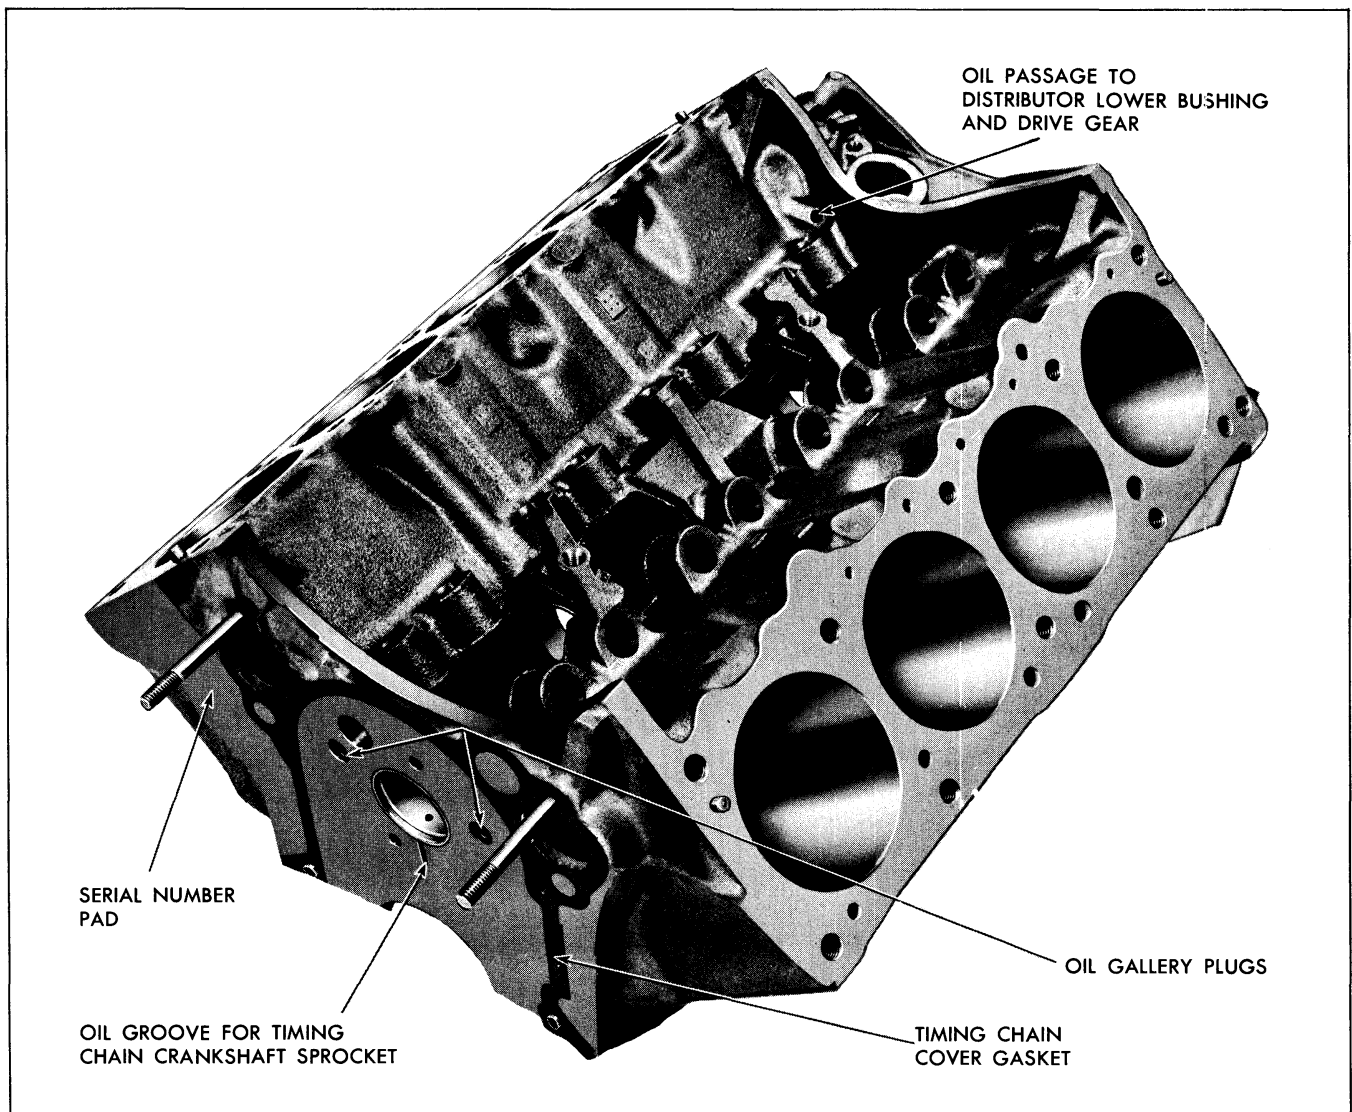

Fig. 6-75 Cylinder Block—View from Left Front
NOTE: Oil circulation diagram is provided in the engine lubrication section. Figures 6-75, 6-76 and 6-77 also show the various locations of water jacket core hole plugs.
e. With cylinder block right side up, check oil passages to left bank lifter bosses. Use rubber hose to blow smoke in oil filter outlet while observing for smoke passing out oil passages from left main oil gallery to lifter bosses (Fig. 6-75).